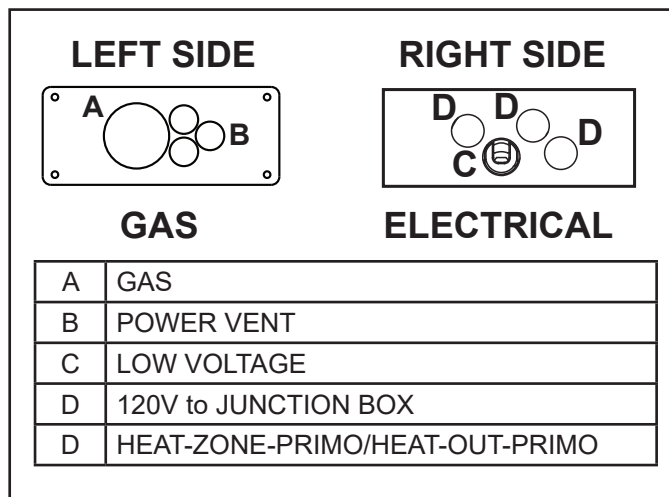

Figure 8.1 Access Plates
- See Figures 8.1, 8.7 and 8.8 for routing electrical power from the appliance to the power vent (PVI-SLP-B or PVLP-SLP), wall switch and PowerFlow™ Heat Management System.
2. Route the wire through the access plate using a strain relief and down through the wire slot located behind the junction box. See Figure 8.1 and 8.3.